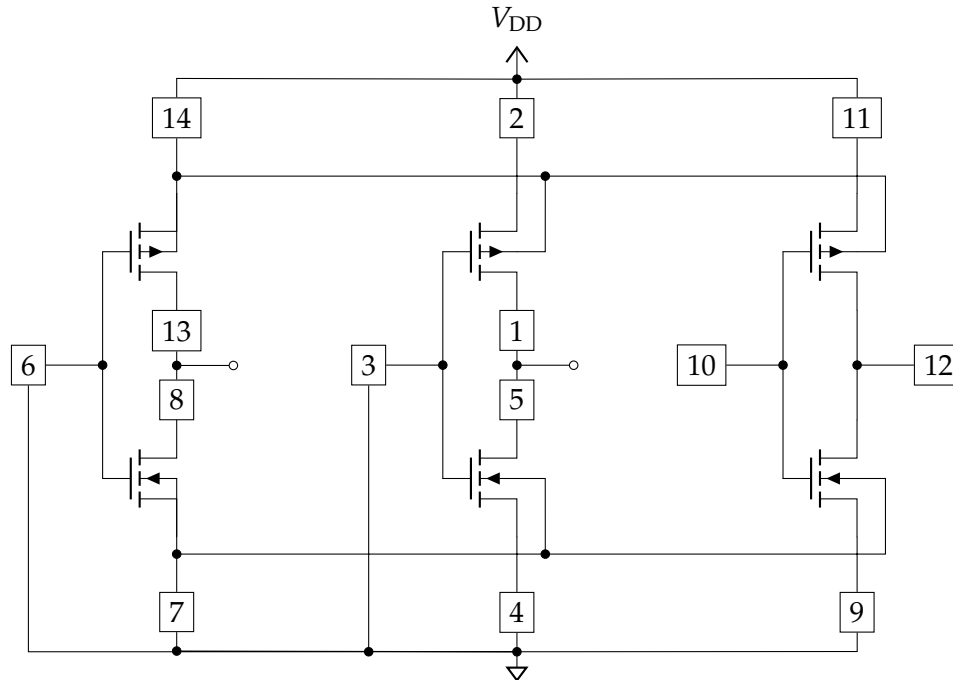

Figure 1.10: Circuit arrangement for measurement of inverter transfer characteristics.
1. *Build* the CD4007UB circuit shown in figure 1.10. It is important to connect pin 3 and pin 6 to ground to prevent oscillations in the other two inverters as well as connect pin 7 and 14 correctly in order to bias the substrate.